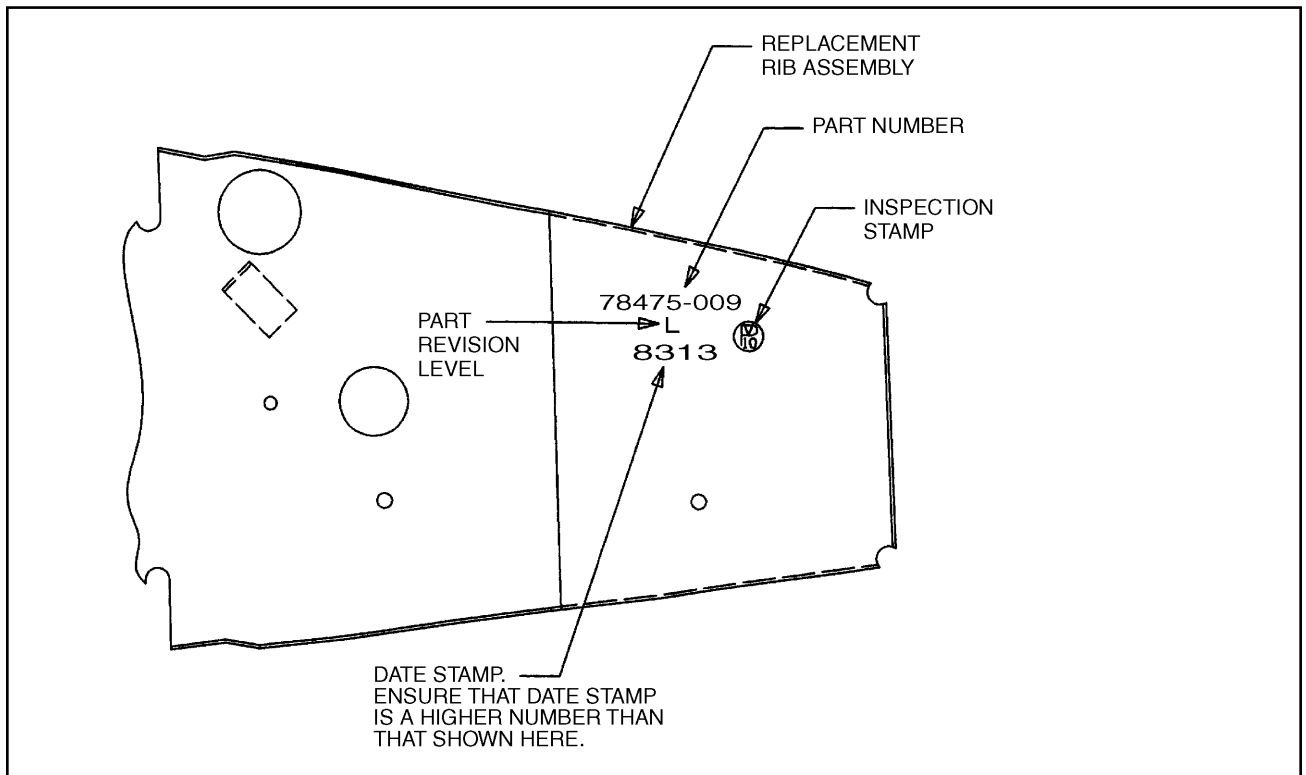

Figure 3-7. Wing Rib Assembly Date Stamp Identification
**NOTE:** Installation of Piper Kit(s) No. 767-397 (LH) and/or 767-398 (RH), eliminates the following 100 hour and 500 hour repetitive inspection requirements for the side(s) affected.
**NOTE:** In the rare instance that service replacement wing rib assembly(s) (P/N 78475-004 and/or 78475-005) with date codes of 8313 (see Figure 3-7) or higher (i.e. - manufactured circa July 2005 or later) have been installed at W.S. 49.25 these inspections are not required for the side(s) affected.
- 3 If a crack is detected, identify the path of the propagation, and determine if trimming, as shown in Figure 3-7, will remove all the material affected by the crack.